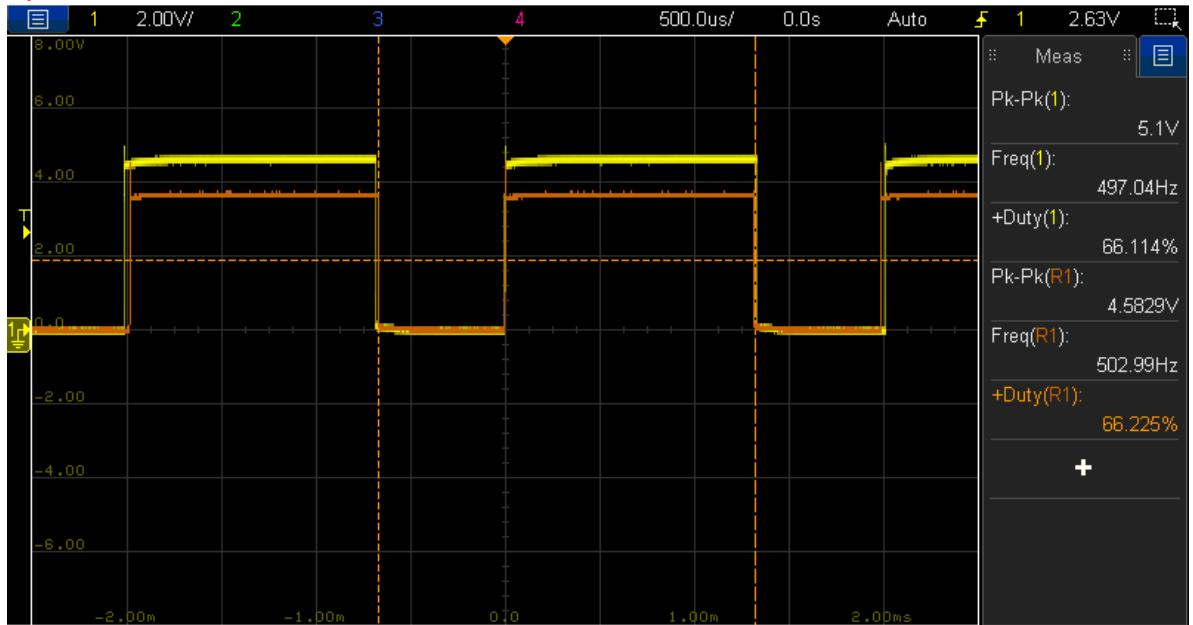

Figure 8: Shows yellow waveform (555 output w/ no load, 5V) vs. orange waveform (555 output with all 4 LEDs connected, 3.8 V)
- $V_{load} = 3.8V$ (Loaded Voltage) (Figure 8)